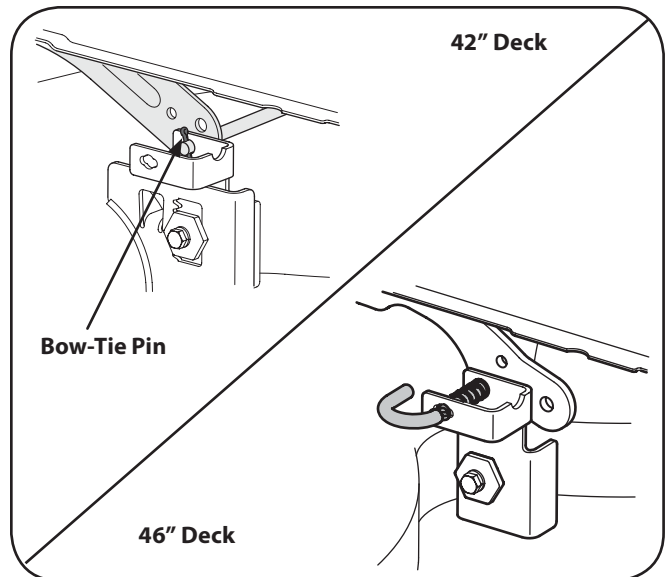

Figure 7-2
5. **On 42" Decks:** Looking at the cutting deck from the left side of the tractor, locate the bow-tie pin that secures the deck support rod on the rear left side of the deck. See upper half of Fig. 7-2. Remove the bow-tie pin that secures the deck support rod, and carefully remove the deck support from the deck lift arm.
**On 46" Decks:** Looking at the cutting deck from the left side of the tractor, locate the deck release handle. See lower half of Fig. 7-2. Pull the deck release handle and carefully release the deck from the deck lift arm.